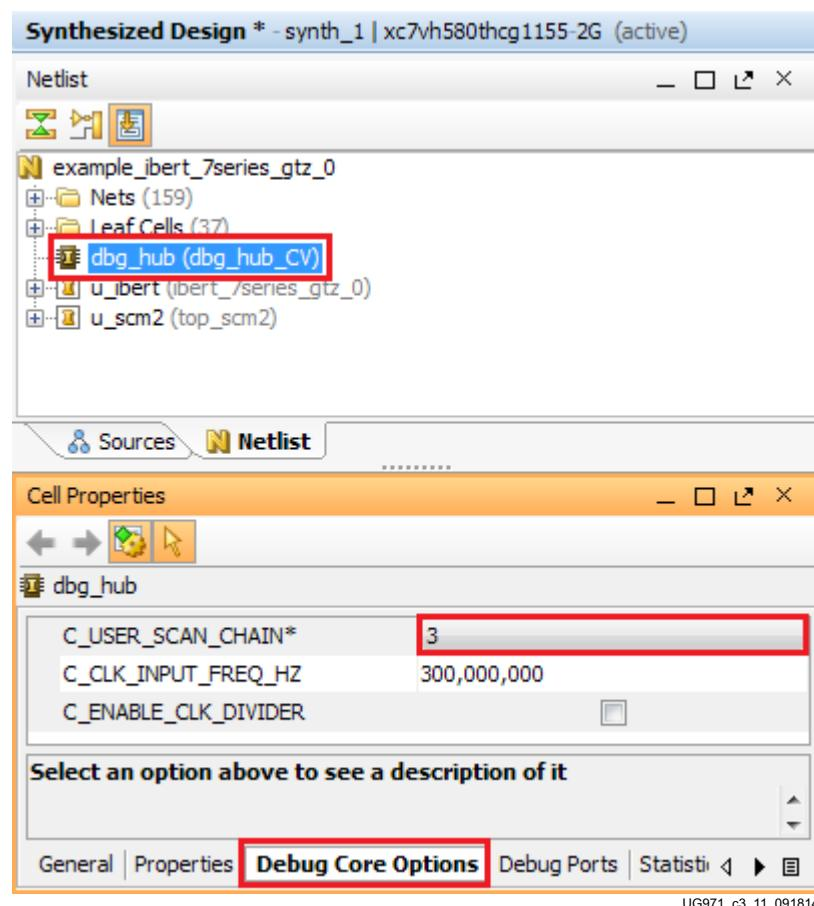

Figure 3-11: Debug Core Options for **dbg_hub**
10. When the Synthesized Design opens, select **dbg_hub** in the Netlist window, then select the **Debug Core Options** tab in the Cell Properties window and change the C_USER_SCAN_CHAIN* option to **3** (Figure 3-11). Click **File > Save Constraints**.